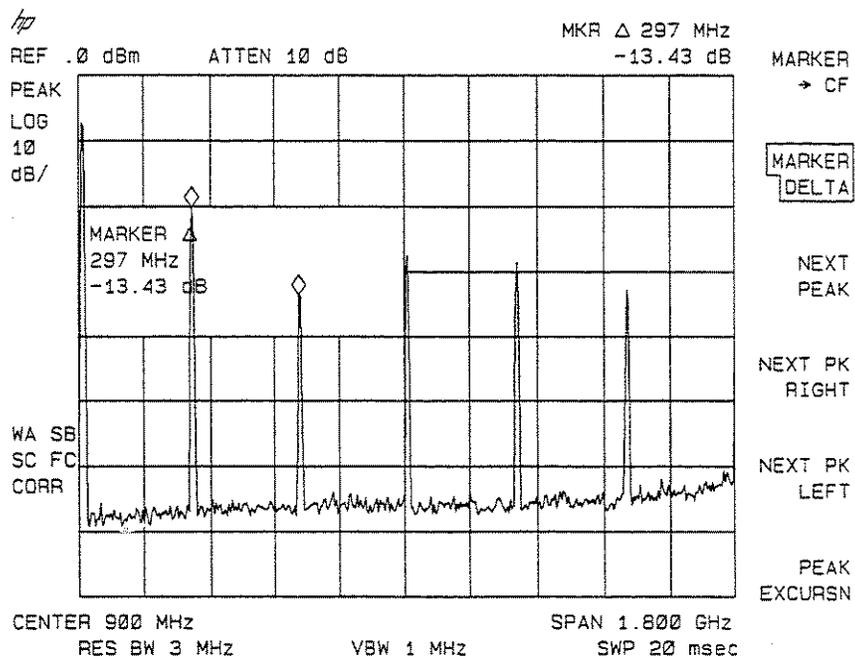

Figure 2-13. Using the Marker Delta Function
4. The amplitude and frequency difference between the markers is displayed in the active function block and in the upper-right corner of the screen. See Figure 2-13.